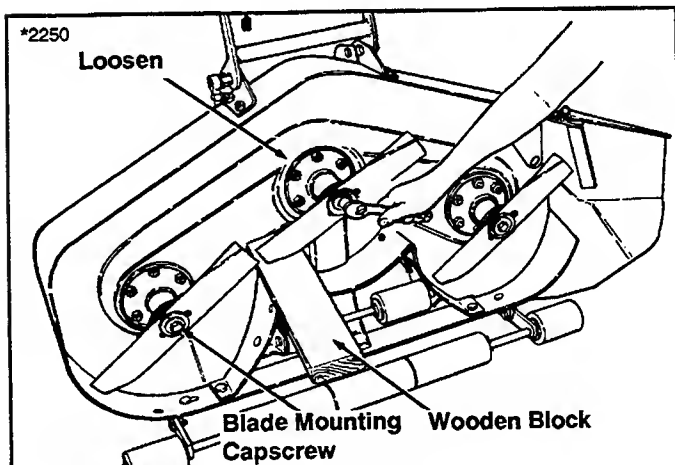

Figure 17. Removing The Blade
3. To remove blade for sharpening, use wooden block to hold blade while removing the blade mounting cap screw (figure 17).